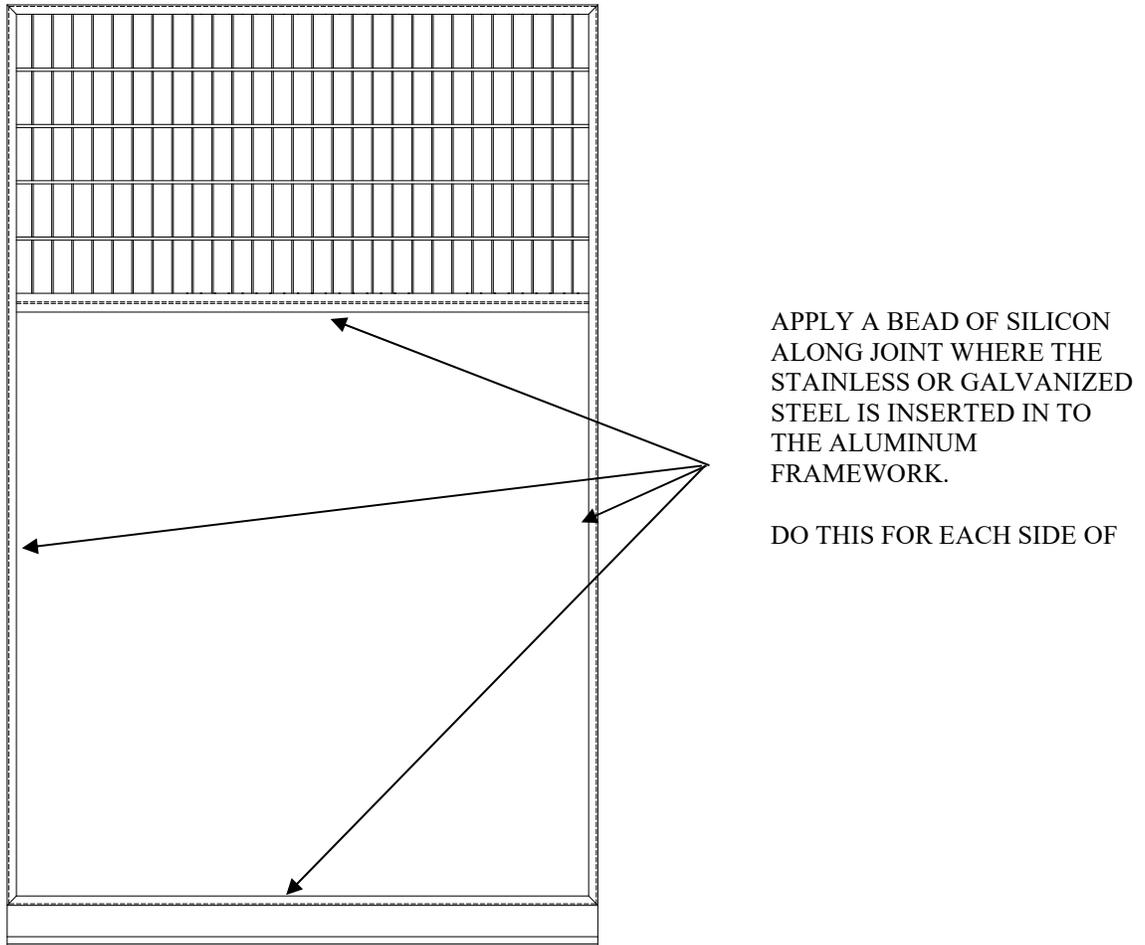

Figure 16
3. **If your system is built with Stainless Steel or Galvanized Steel panels you will need to seal the perimeter of the stainless steel on both sides of the panels. Apply a thin bead and wipe away excess with denatured alcohol applied to a shop rag. Refer to Figure 16.**